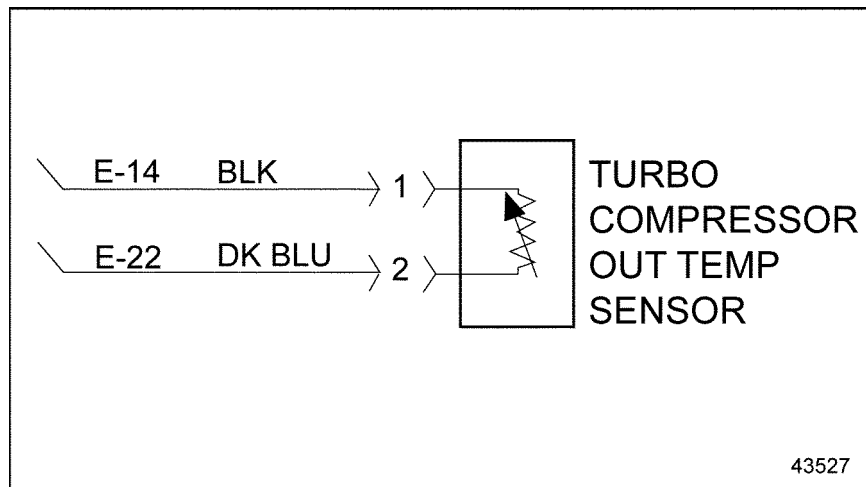

Figure 50-3 Turbocharger Compressor Out Temperature Circuit
4. Check the connectors for damaged, bent or broken pins. See Figure 50-3.